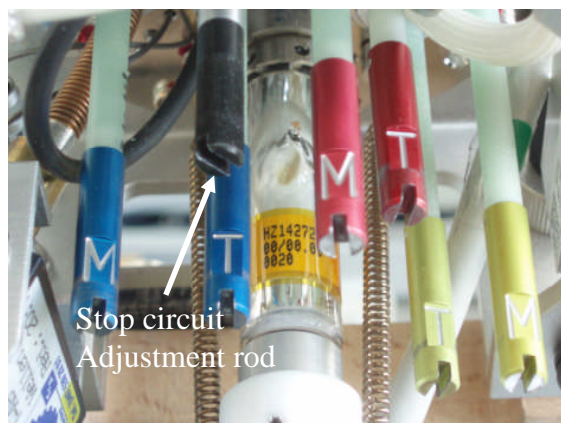
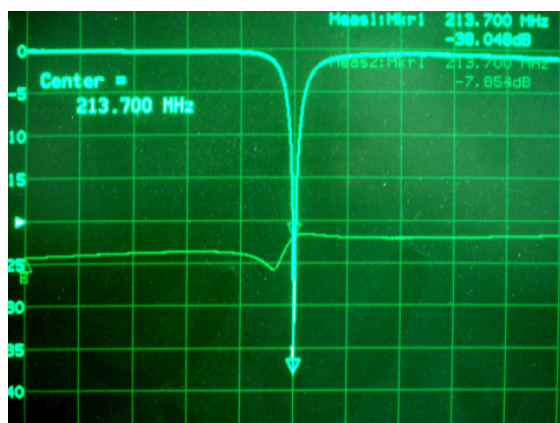
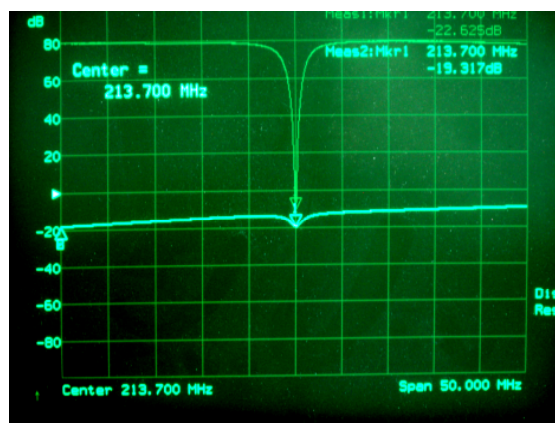

Fig.5 Adjustment rod of the stop circuit frequency
Fig.6 ^{13}C stop circuit frequency **not** optimized
Fig.7 ^{13}C stop circuit frequency optimized
1. Adjust the stop circuit frequency by turning the black rod at the bottom of the probe, see Fig.5 and observe the insulation at the Network- Analyzer, see Fig.6 and Fig.7